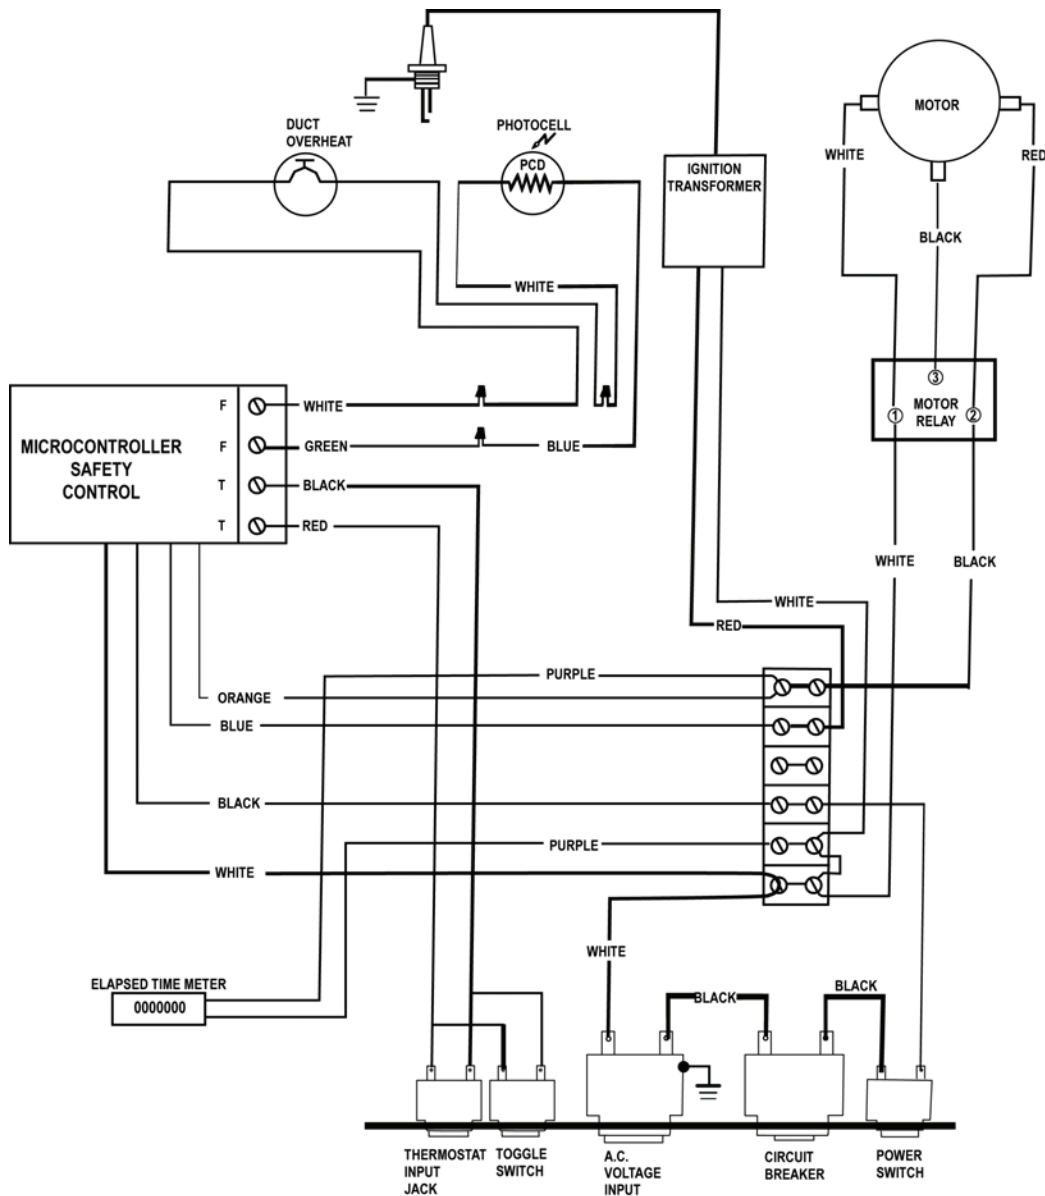

Figure 12. Diesel Heater Safety Control Wiring Diagram.
- b. Connect the four safety control wires to the distribution bar as shown in the wiring diagram in Figure 12.
- d. Connect the four tagged wires to the terminals on the new safety control assembly as shown in the wiring diagram in Figure 12.